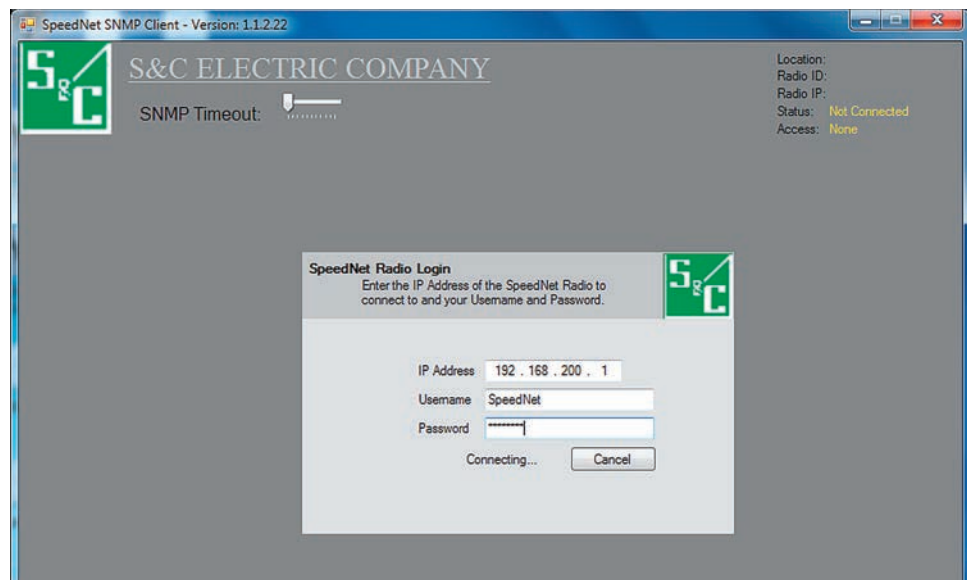

Figure 3. SpeedNet Radio login dialog box.
STEP 11. Open the Client Tool (see Figure 3) and enter the following: